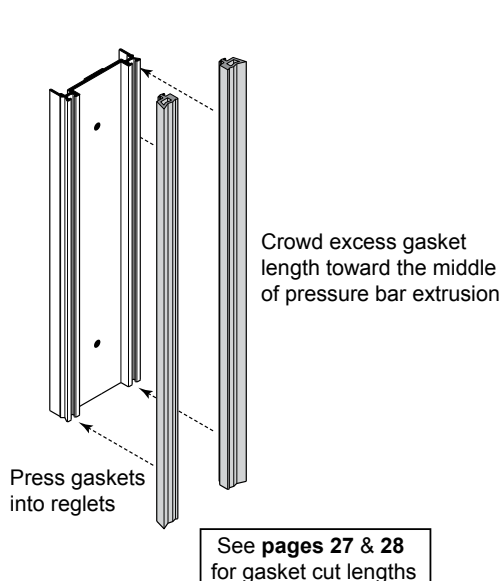

Fig. 33.2
- Install P4606 gasket into vertical mullions. See Fig. 33.2 and Fig. 34.3. Vertical mullion gaskets run beyond the horizontals. The vertical gasket will run through the vertical splice joint, set in fresh sealant at the splice. Notch darts off the gasket as required for proper fit.
- G. At SSG verticals, refer to Step 8 to apply the water dams. See **Fig. 33.2**.